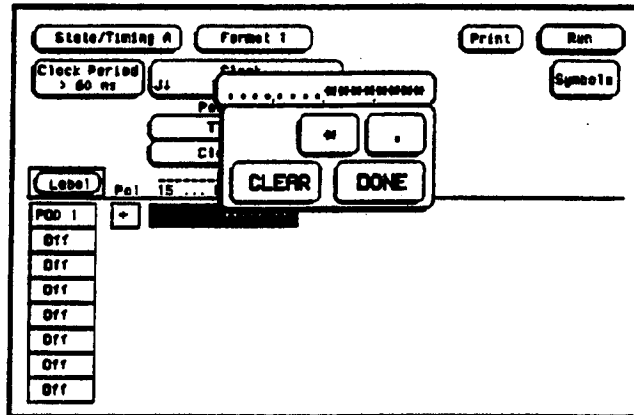

Figure 3-7. Format Screen/Bit Assignment
- b. Touch the Bit Assignment field and turn on bits 0 through 7 (asterisk (*) = on; dot (.) = off). See figure 3-7.